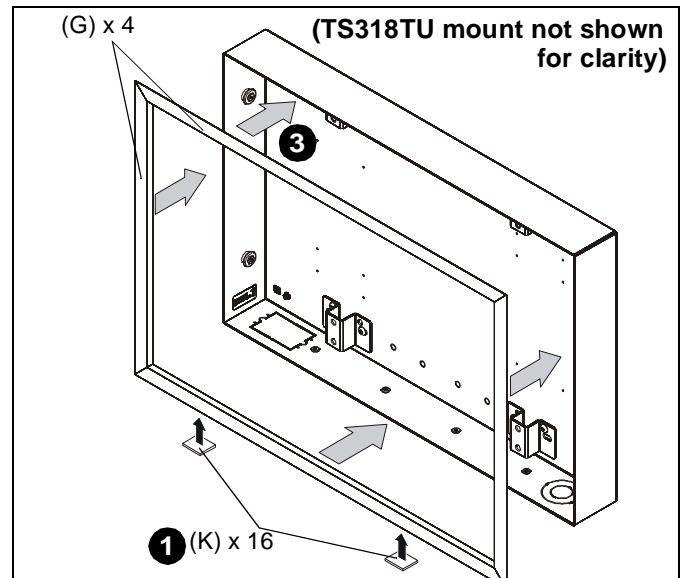

Figure 12
- Remove paper covering adhesive and affix three tape squares (K) to inside lower flange of each trim piece (G). (See Figure 12)
- Orient trim pieces (G). (See Figure 12)
- Remove paper covering adhesive back from tape squares (K) on trim and press trim (G) against inner wall of box. (See Figure 12)